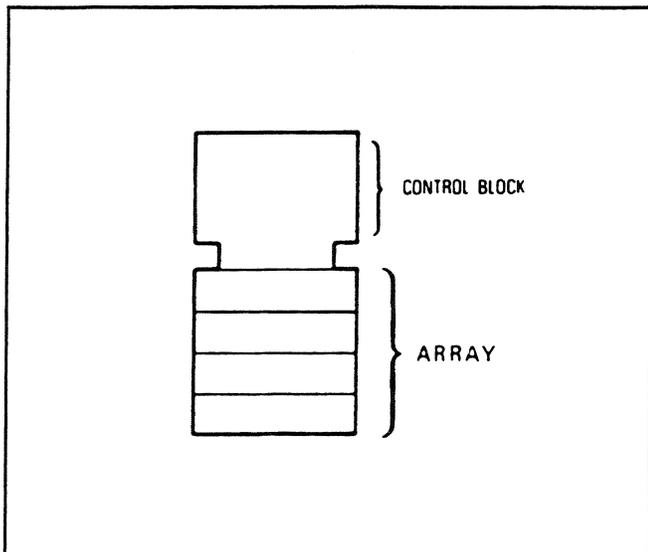
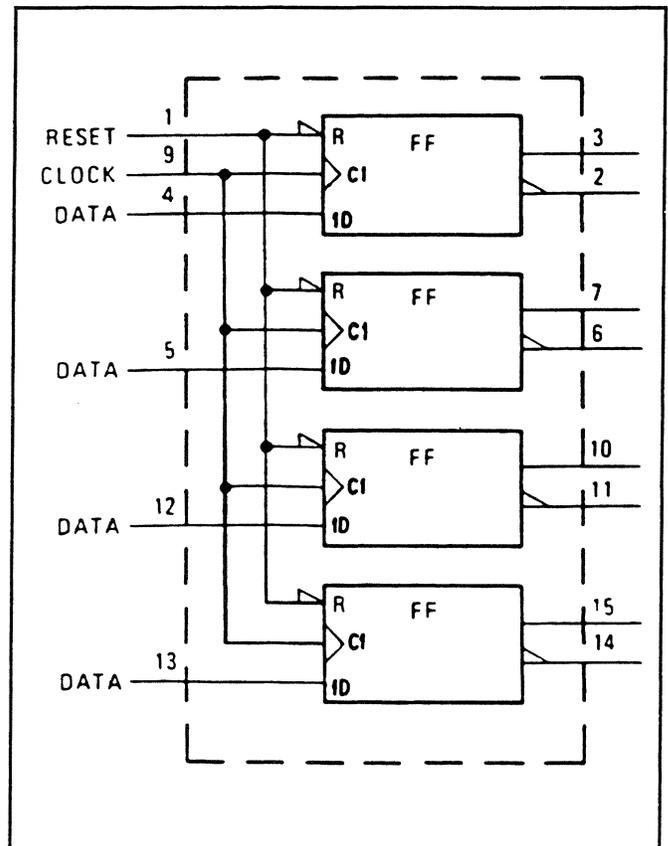
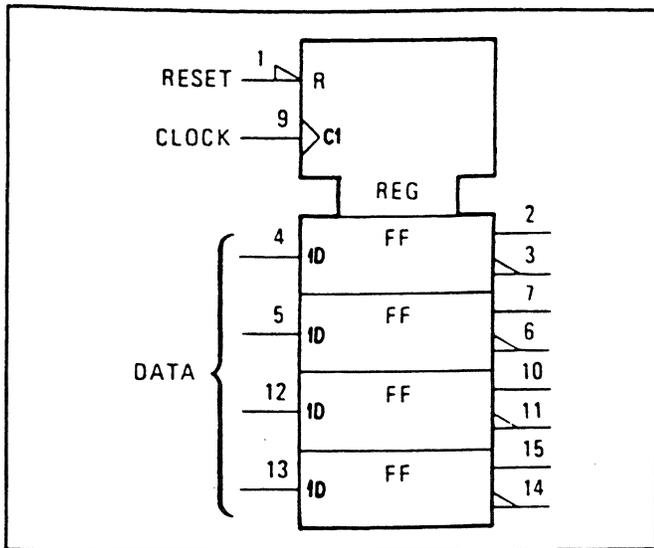

Figure A-5 Common Control Block
Figure A-6. Quad D-Type Latch (Individual)
Figure A-7. Quad D-Type Latch (Combined)
**Common Control Block.** The Control block is used in conjunction with an array of related symbols in order to group common logic lines. Figure A-5 shows how the Control block is usually represented. Figure A-6 shows a quad D-type flip-flop with reset. This can be redrawn as shown in Figure A-7. Note that the more complex representation shown in Figure A-6 can be used when the flip-flops are functionally scattered around the schematic (i.e., not used as a quad unit).